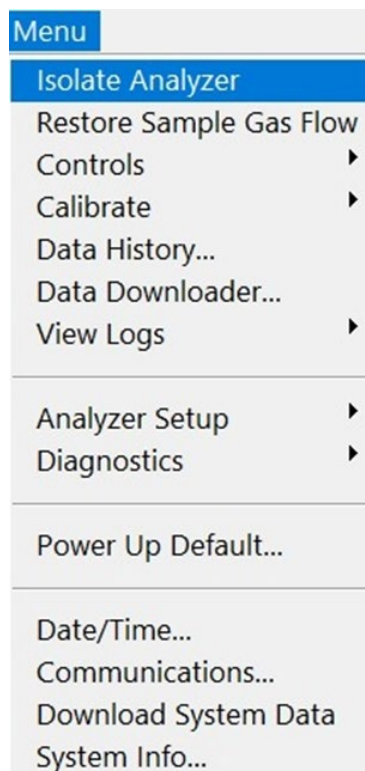

Figure 14: Starting Gas Flow
11. Establish sample gas flow by pressing the menu key and selecting **Restore Sample Gas Flow** as shown in **Figure 14**. Verify that the main screen indicates flow.